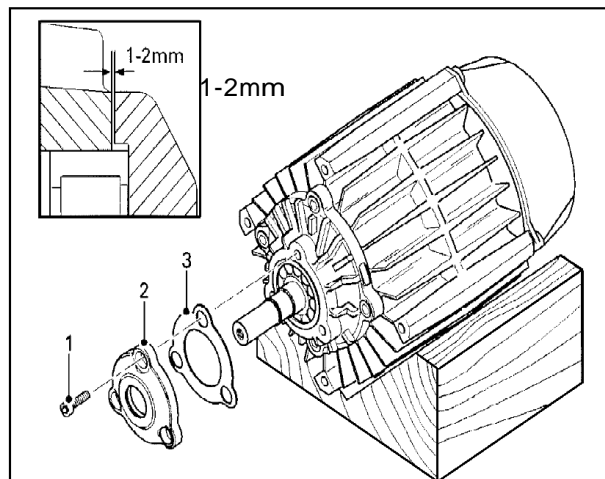

Figure 12 .Replacing the bearing housing
5. Fit the Bearing-housing cap using the 3 socket cap screws leaving a 1-2 mm gap between the face of the sideplate and the bearing housing cap. See fig 12.